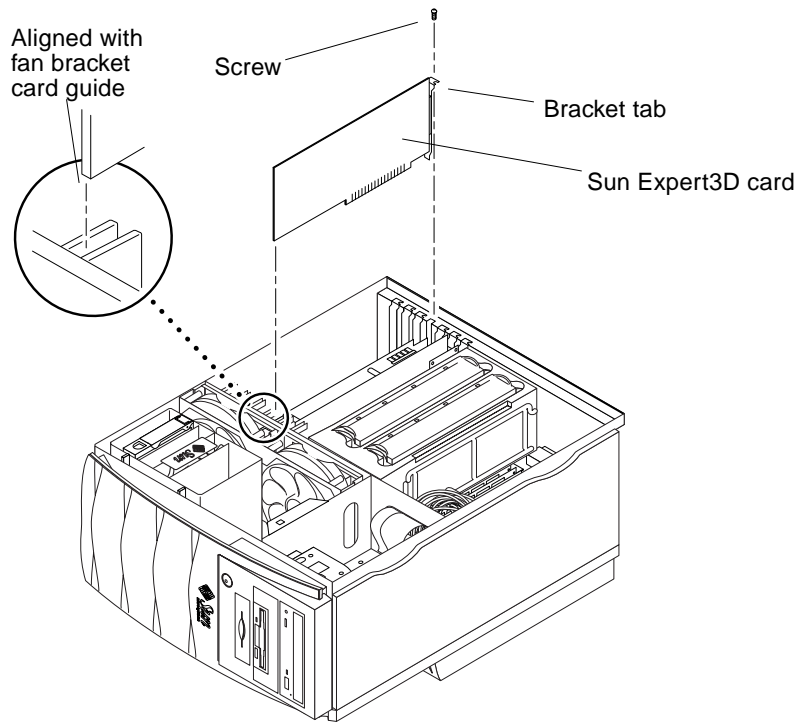

FIGURE 2-5 Installing Sun Expert3D Graphics Card in a Sun Blade 1000 System
- 4. Position the Sun Expert3D card in the chassis (FIGURE 2-5).**